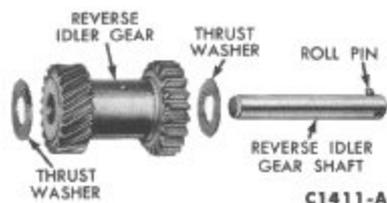
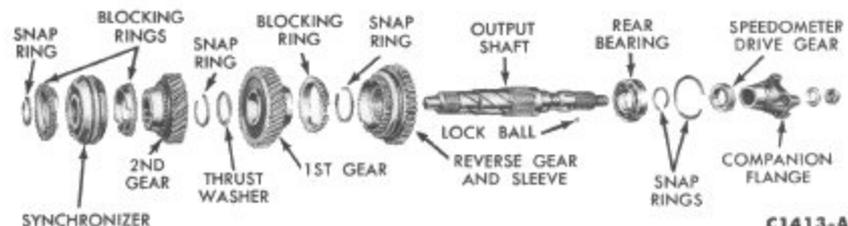

FIG. 47—Reverse Idler Shaft Disassembled
FIG. 50—Output Shaft Disassembled
Ball bearings support the input gear and the center of the output shaft (Figs. 50 and 51). Needle bearings, in the input gear bore, support the front of the output shaft. The countershaft gear (cluster gear) also runs on 2 rows of needle bearings. A bronze bushing is used in the reverse idler gear (Fig. 47). The output shaft in this transmission is short enough to enable the rear bearing to support the front of the driveshaft.
and straight-clutch gear type (Fig. 50).
21. Working through the front bearing opening, drive the reverse idler gear shaft (Fig. 47) out through the rear of the case with a drift.
26. Remove the snap ring from the front of the output shaft, then slide the synchronizer and the second speed gear (Fig. 50) off the shaft.
5. Slide the first and reverse synchronizer (Fig. 50) onto the output shaft with the teeth end of gear facing toward the rear of shaft. Secure it in place with the snap ring.